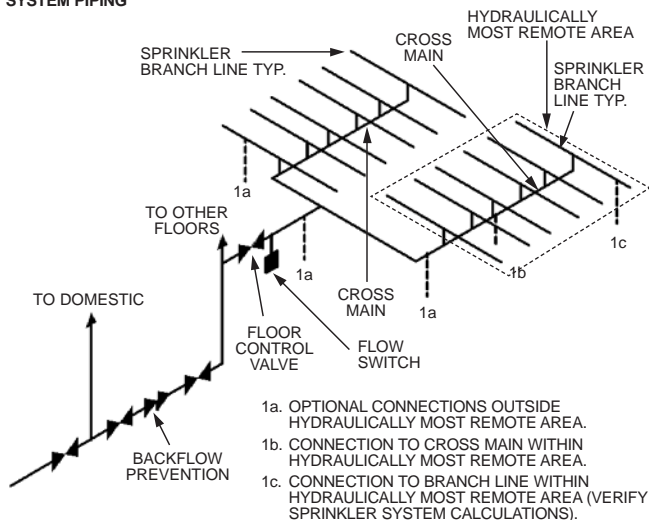

FIGURE 6A
- For PIRANHA waterline connection to existing sprinkler piping outside the hydraulically most remote area, connection can be made to either the nearest cross main or a sprinkler branch line (see Figure 6a). For PIRANHA waterline connection to existing sprinkler piping within the hydraulically most remote area, the PIRANHA dedicated waterline must be connected to the nearest "cross main" (see Figure 6a) unless the sprinkler system can be hydraulically recalculated to verify enough water pressure and flow to allow connection to a sprinkler branch line (see Figure 6a).